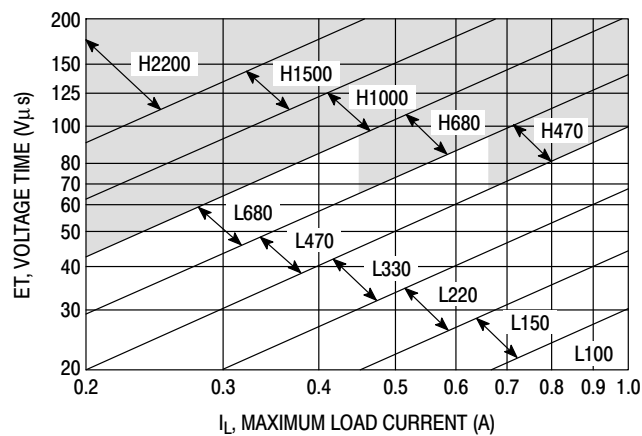

Figure 21. LM2575-Adj
4. Inductor Selection (L1) A. Use the following formula to calculate the inductor Volt x microsecond [V x μs] constant: $E \times T = \left(V_{in} - V_{out} \right) \frac{V_{out}}{V_{on}} \times \frac{10^6}{F[\text{Hz}]} \text{ [V x } \mu\text{s]}$ B. Match the calculated E x T value with the corresponding number on the vertical axis of the Inductor Value Selection Guide shown in Figure 21. This E x T constant is a measure of the energy handling capability of an inductor and is dependent upon the type of core, the core area, the number of turns, and the duty cycle. C. Next step is to identify the inductance region intersected by the E x T value and the maximum load current value on the horizontal axis shown in Figure 21. D. From the inductor code, identify the inductor value. Then select an appropriate inductor from the Table 1 or Table 2. The inductor chosen must be rated for a switching frequency of 52 kHz and for a current rating of $1.15 \times I_{load}$. The inductor current rating can also be determined by calculating the inductor peak current: $I_{p(max)} = I_{Load(max)} + \frac{\left(V_{in} - V_{out} \right) t_{on}}{2L}$ where t_{on} is the "on" time of the power switch and $t_{on} = \frac{V_{out}}{V_{in}} \times \frac{1}{f_{osc}}$ For additional information about the inductor, see the inductor section in the "External Components" section of this data sheet.	4. Inductor Selection (L1) A. Calculate E x T [V x μs] constant: $E \times T = (12 - 8.0) \times \frac{8.0}{12} \times \frac{1000}{52} = 51 \text{ [V x } \mu\text{s]}$ B. E x T = 51 [V x μs] C. $I_{Load(max)} = 1.0 \text{ A}$ Inductance Region = L220 D. Proper inductor value = 220 μH Choose the inductor from the Table 1 or Table 2.